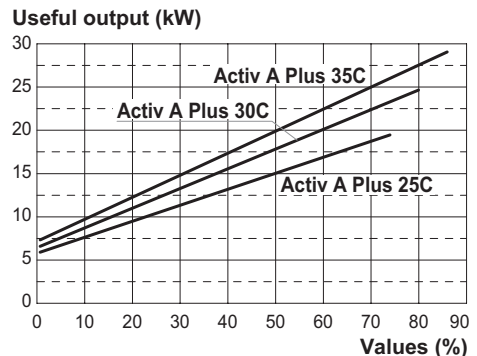
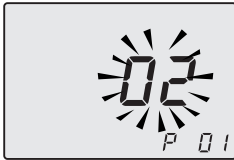
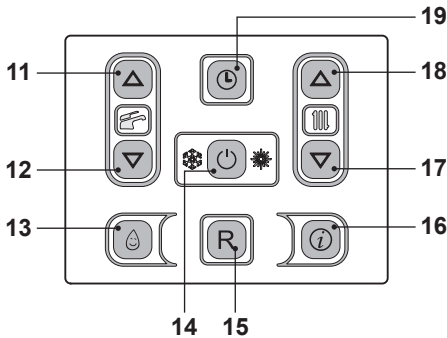

Fig. 7.45
Fig. 7.46
Fig. 7.47
Refer to Fig. 7.45 and determine the correct Value appertaining to the output required for the central heating requirement.
- Enter the "programming mode" by pressing keys 14 - 17 - 18 (Fig. 7.47) for 10 seconds at the same time until the letters **P01** are displayed on the LCD display, indicating that "parameter 01" (Fig. 7.46) has been activated.
- It is possible to modify parameter using keys 11 or 12 (Fig. 7.47) (Refer to Fig. 7.45 and determine the correct Value appertaining to
- By pressing key 14 (Fig. 7.47) confirmation of the inserted value is obtained.
- Press keys 17 or 18 (Fig. 7.47) to exit without changing the value.